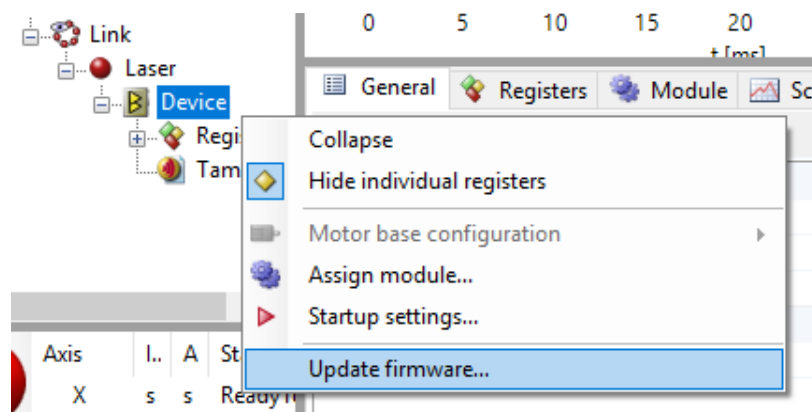

Figure 25: Firmware download via the station node.
- Right click the device to open the context menu (Figure 25).